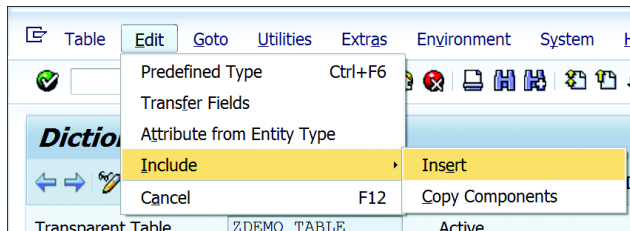

Figure 10.29 Include Structure
1. On the table maintenance screen, place your cursor on the field where you want to include the structure. Follow the menu path EDIT • INCLUDE • INSERT, as shown in Figure 10.29.